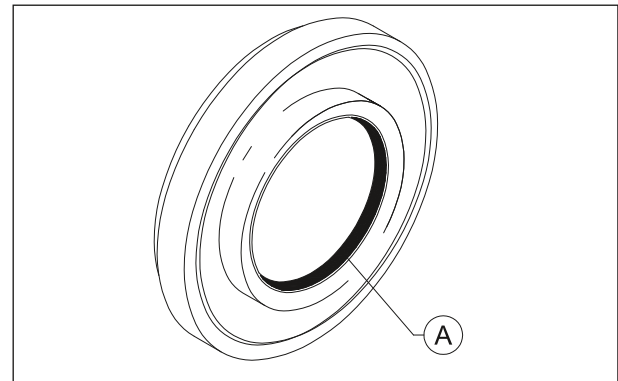

Fig. 3.90
- Damage to the lip (A) of the oil seal may result in leakage of the oil. Inspect for damage and be sure to replace the damaged oil seals with the new ones. (Fig. 3.90)